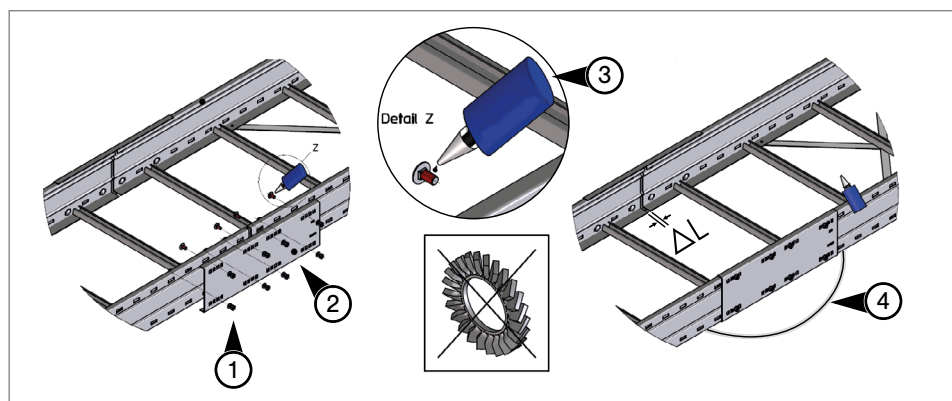

Fig. 4: Mounting connectors as movable bearings
1. Determine the expansion distance as described in Chapter „8.1.2 Determining the expansion distance“ on page 15 (see  $\Delta L$  in Fig. 4).
2. Fasten the connectors tightly to one of the cable sections to be connected, see Fig. 4 No. 1.